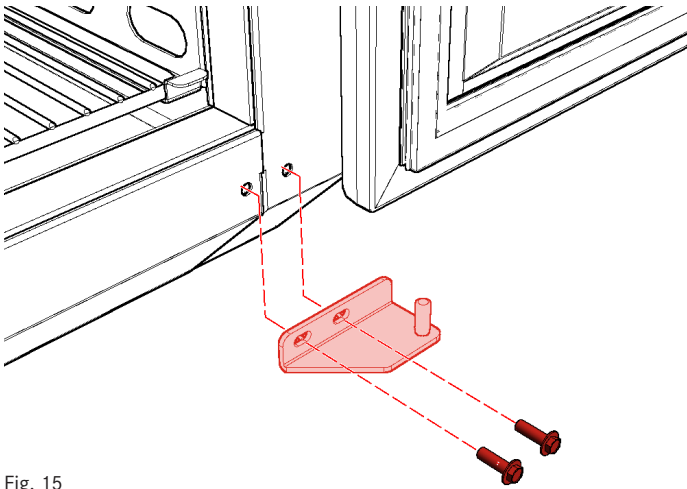

Fig. 15
Hold freezer door open. Remove two (2) screws fastening bottom-right hinge to front of unit (Fig. 15). Reinstall screws into empty holes.